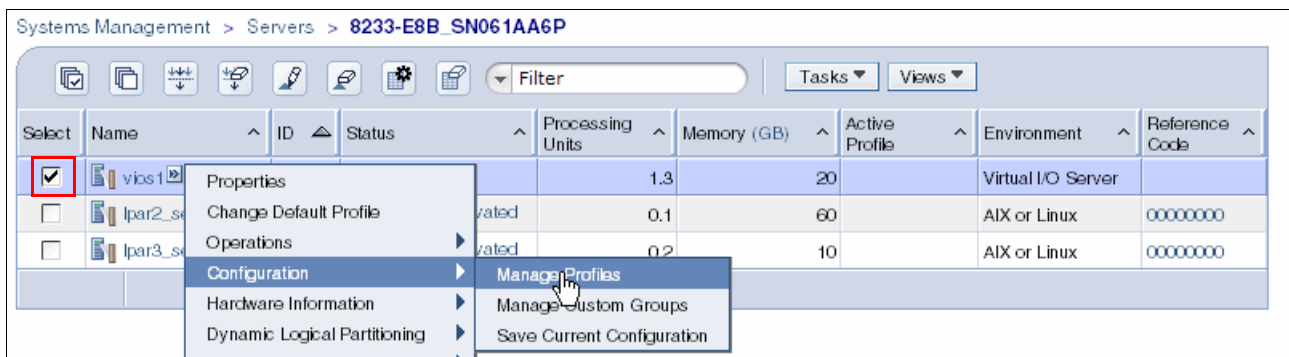

Figure 5-20 Selecting Manage Profiles in the HMC
- a. In the HMC, select the LPAR. Select **Configuration** → **Managed Profiles**, as shown in Figure 5-20.